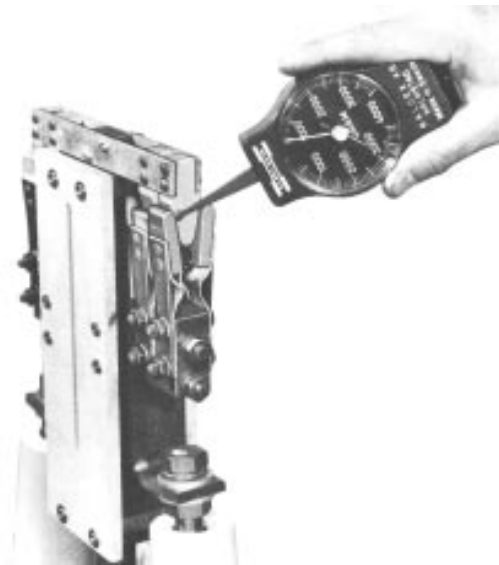

Figure 26.
A. Using a pressure gage as shown in Figure 26 check the contact pressure. Force on the gage rod must be applied at right angles to the contact surface. The force required to separate a stationary contact from its moving contact should be 7.5 ± 0.5 lb.